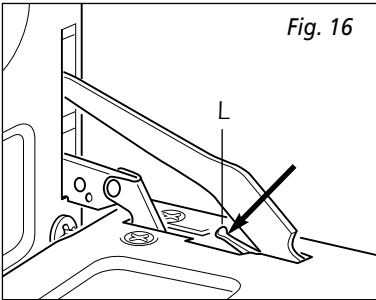

Fig. 16
- Push down the lever "L" and, keeping it in this position, slowly close the door in order to lock the hinge (Fig. 16).
- If the door is out of line or does not close properly the hinges are not sitting properly. Start again from figure 16.